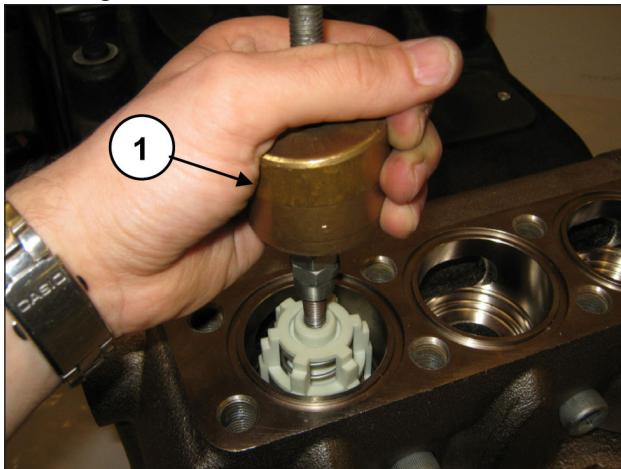

Fig. 137
Extract the outlet valve unit with the use of an extractor hammer (code 27516400) to be applied on the M10 hole of the valve guide (pos. ①, Fig. 137) or, in addition, an M10-M16 adapter (code 25089700) to be attached to the M16 thread of the valve guide.